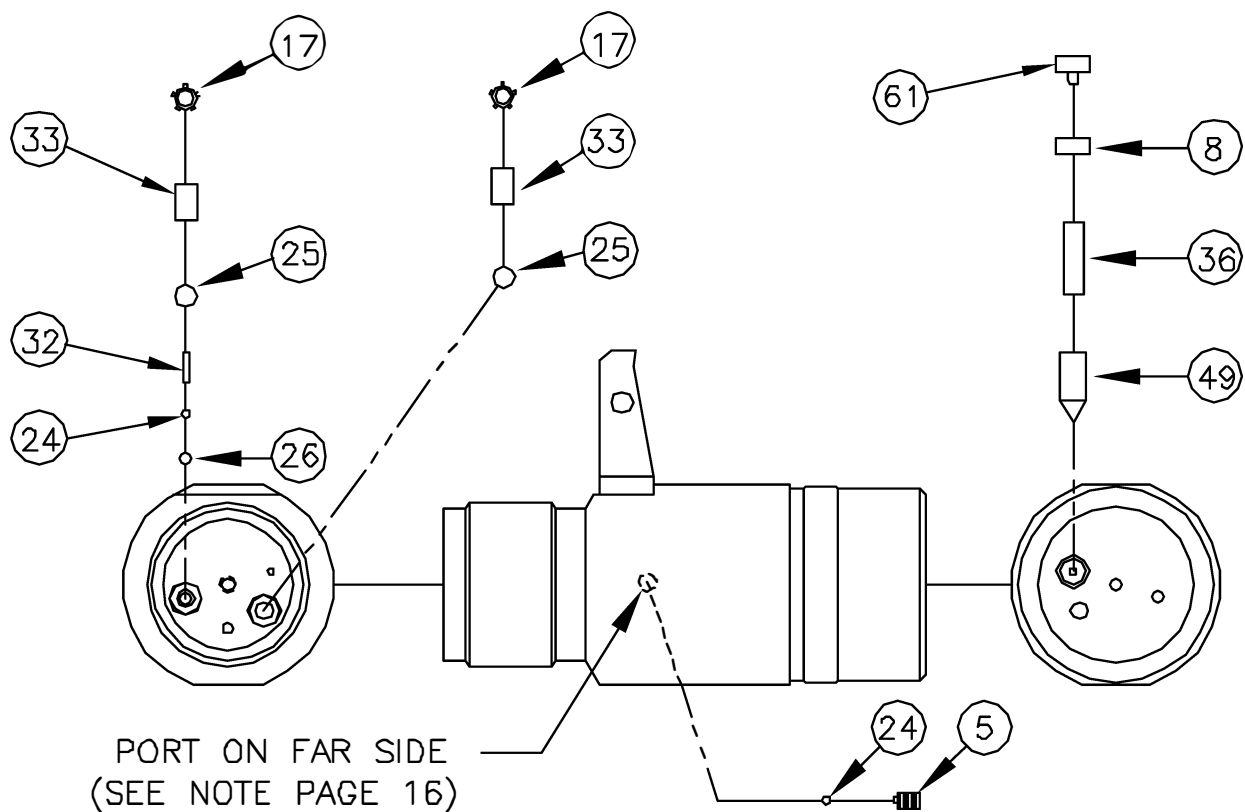

FIGURE 12
2. With the pump securely held in a vise, locate the inlet-outlet port (see Figure 12) and remove retaining ring 17.
NOTE REGARDING THE BODY PORT: This part is placed in the body during the manufacturing process and serves no purpose. Ball 24 is held to its seat by screw 5 (see Figure 12).